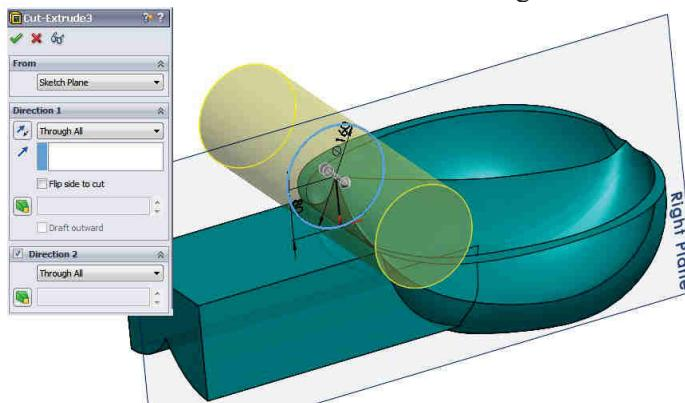

Fig. 3.17
**20 Schițare cerc  $\phi 160$ :** comanda Sketch- Fig. 3.17 – Selectie plan Right / Schițare cerc  $\phi 160 \times 80$  / .
**20 Sketching the  $\phi 160$  circle:** the Sketch command - Fig. 3.17 – Select Right Plane / Sketch the circle  $\phi 160 \times 80$  / .
**21 Creare decupare la ieșire – Extrudare cerc  $\phi 160$ :** comanda Extruded Boss/Base - Fig. 3.17 – Direction 1 – Through All / Direction 1 – Through All / .
**21 Creation of the Exit Offcut – Extrusion of the  $\phi 160$  circle:** the Extruded Boss/Base command - Fig. 3.17 – Direction 1 – Through All / Direction 1 – Through All / .